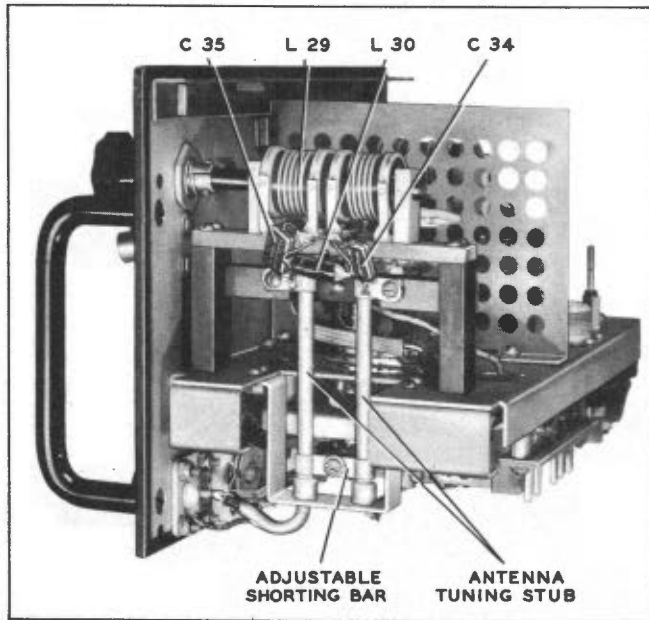

Figure 4-12. Radar Transmitter T-28/APT-1
(2) Coil L29 is adjustable by "AMP PLATE" control on the transmitter panel.
f. Plate voltage is fed to the two halves of the tube through the center tapped r-f choke coil L30. (See fig. 4-12.)
g. The output of the amplifier is fed to the antenna through blocking capacitors C34 and C35 and a coupling circuit as shown in figures 4-12 and 4-13.